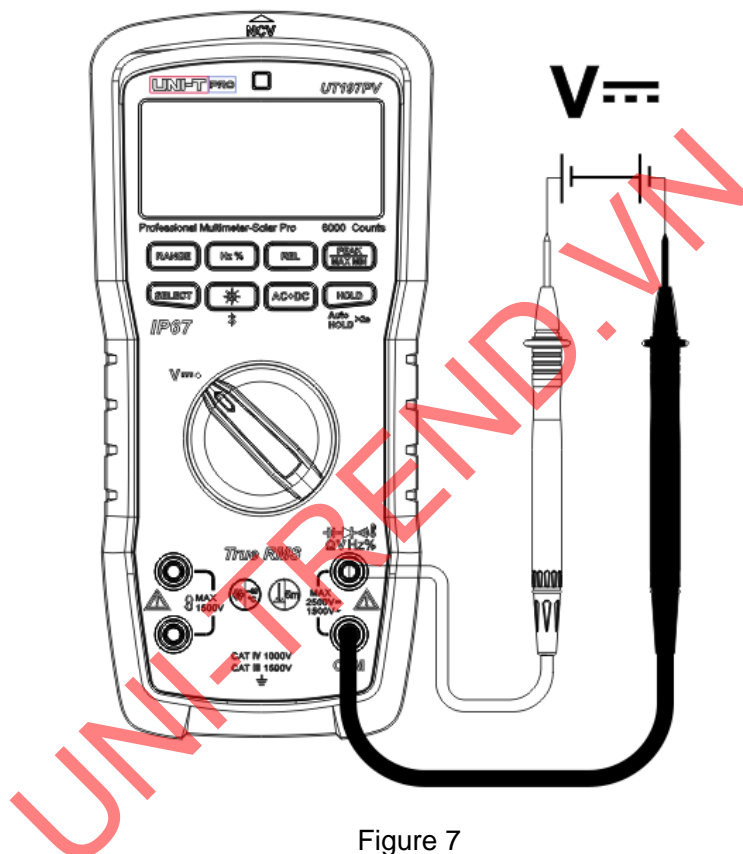

Figure 7
3. DC voltage measurement (Figure 7)